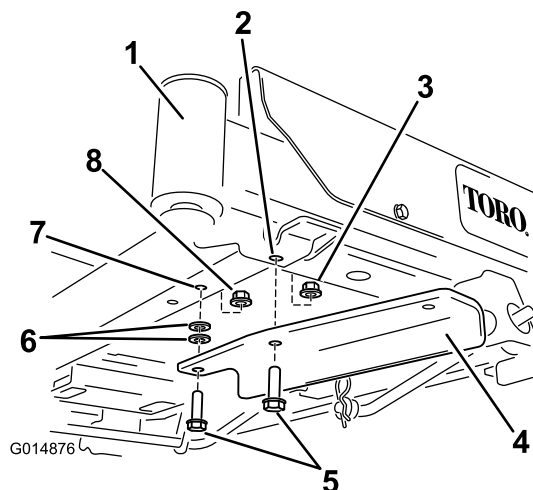

Figure 8
- For machines without a foot assist lift pedal, secure the bracket using 2 bolts (3/8 x 1-1/4 inches), 2 washers and 2 locknuts (3/8 inch) as shown in Figure 8.